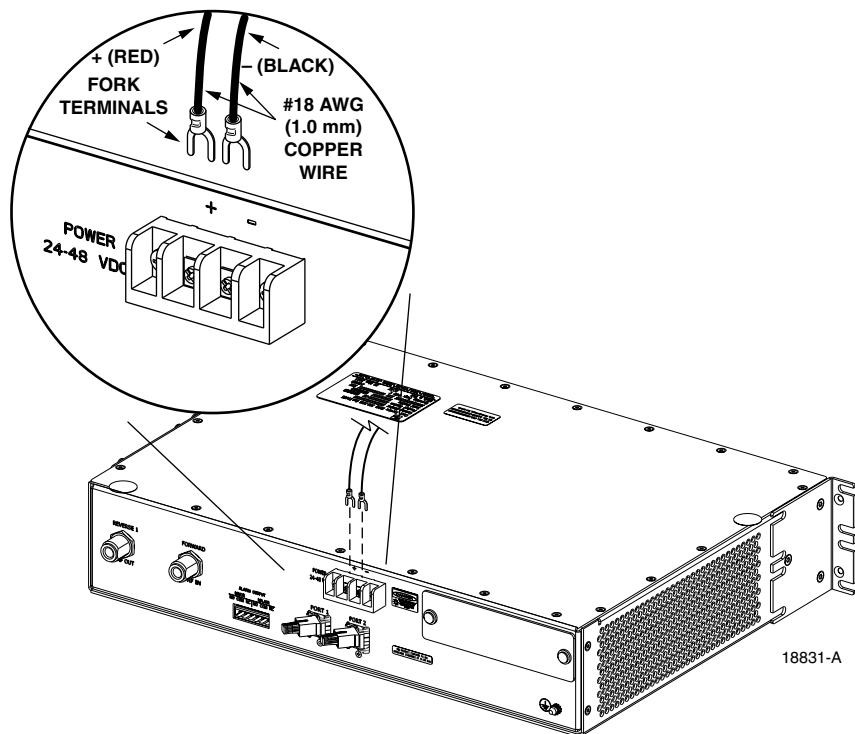

Figure 3-13. DC Power Connections
2. Terminate one end of each wire with a fork terminal as shown in Figure 3-13.